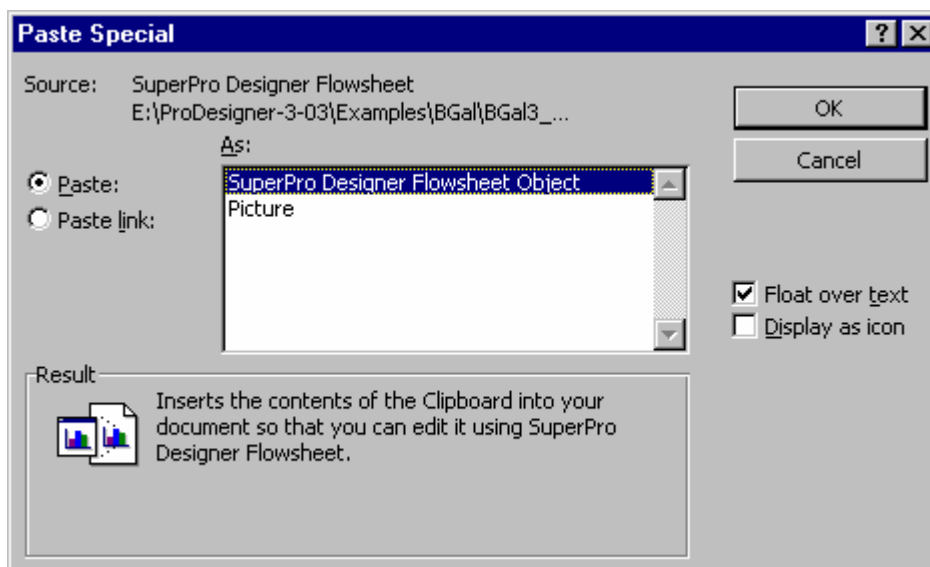

Figure 14.1: Pasting the contents of the Clipboard into another application using the **Paste Special...** option.
- a. Choice (3.a) above is equivalent to (3.b) with decisions (a) and (a) selected from the dialog of Figure 14.1.